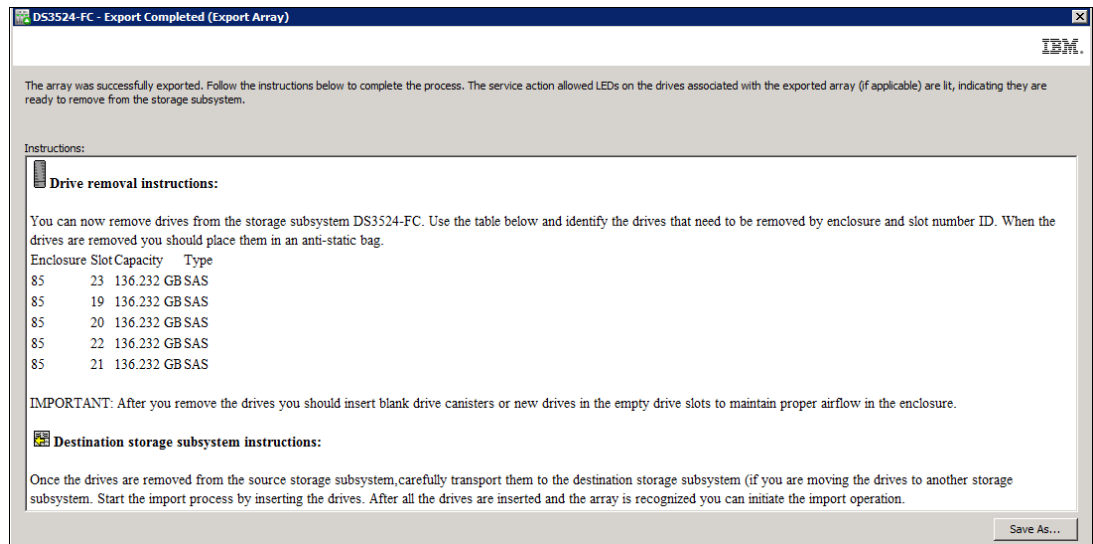

Figure 15-28 Export completed
- When the process has completed, the wizard will indicate that the drives can be removed as shown in Figure 15-28.